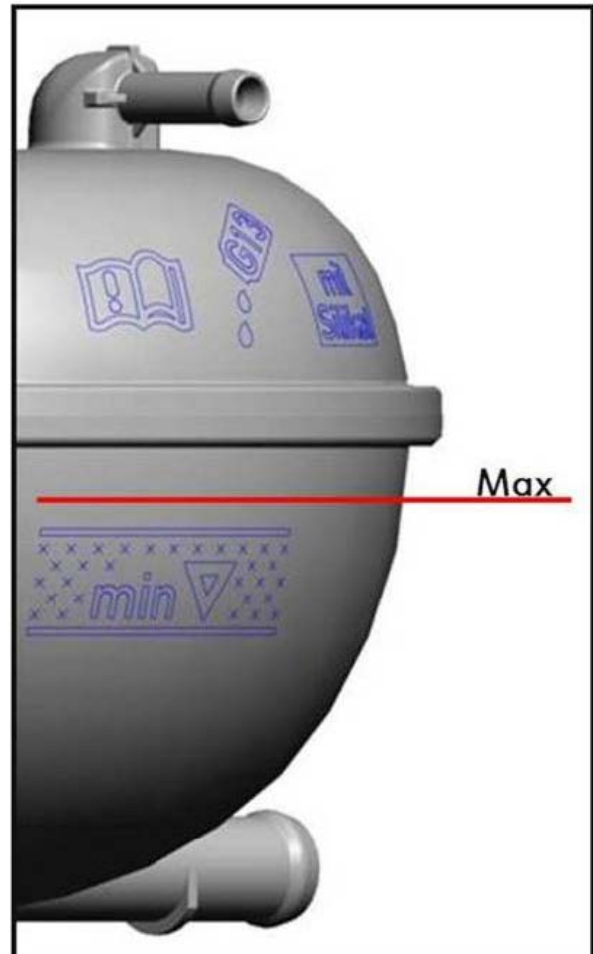

Figure 1. Coolant fill level.
- If no leak is found, top off the coolant level to the mark (Figure 1). No repair is necessary. Explain the *Technical Background* to the customer.